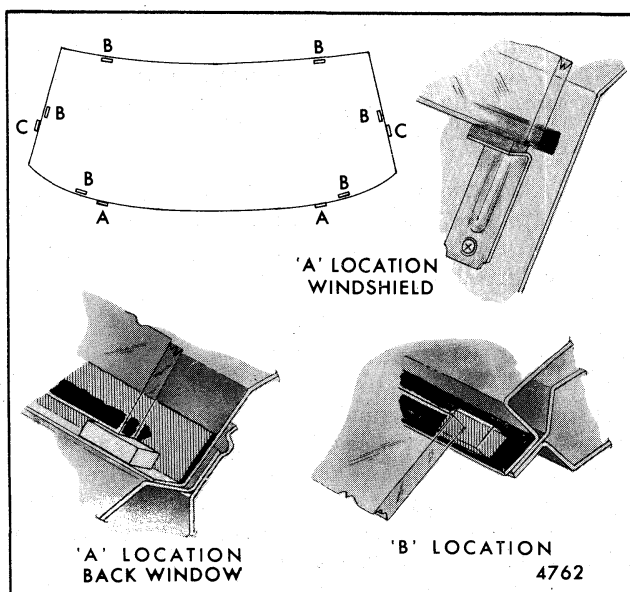

Fig. 11-9-Glass Spacer Installation
2. Locate lower support spacers No. 7694478 (.34 x .44 x .75) or equivalent as indicated in Figure 11-9 ("A" location) and position glass in the window opening. If new glass is being installed, check relationship of glass to adhesive material on pinchweld flange. Gaps in excess of 1/8" must be corrected by shimming or by applying more adhesive material than specified in step 7.
3. Using black weatherstrip adhesive or adhesive material, cement flat rubber spacers No. 4459429 or equivalent to window opening pinchweld flanges. As shown in Figure 11-9, location "B", spacers should be positioned to provide equal support around entire perimeter of glass.
4. Figure 11-9, location "A", illustrates rectangular spacers positioned in typical back window
- a. Part No. 4459429 or equivalent (.20 x .63 x 1.0) stand off spacers for maintaining glass $3/16"$ from body opening - see location "B", Figure 11-9.
- b. Part No. 7694478 or equivalent (.34 x .44 x .75) lower and side support spacers - see locations "A" and "C", Figure 11-9.
- c. Part No. 9848544 or equivalent (.52 x .44 x .75) lower and side support spacers - see locations "A" and "C", Figure 11-9.
- d. Part No. 9613680 or equivalent (.36 x .44 x 1.0) lower and side support spacers - see locations "A" and "C", Figure 11-9.